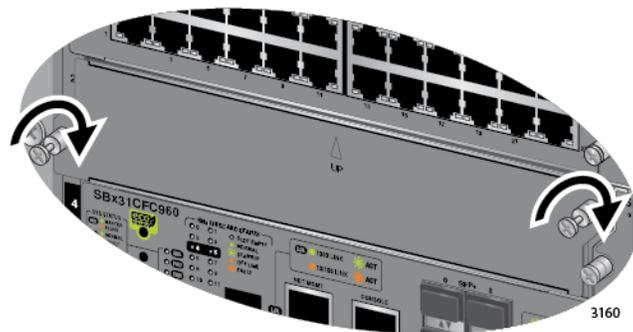

Figure 79. Tightening the Thumbscrews on a Blank Slot Cover
2. Finger tighten the two thumbscrews to attach the blank panel to the chassis, as shown in Figure 79 on page 141.